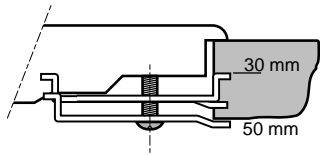

fig. 7
- Place the hob in the cut out and secure the fixing brackets (see fig. 7).